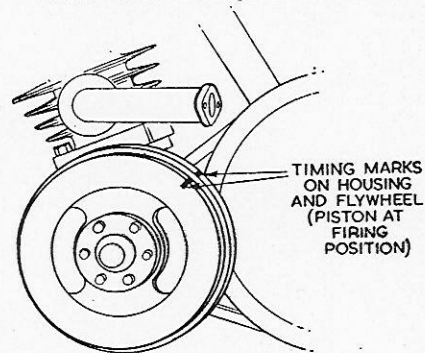

FIG. 1.—Timing marks.
Checking ignition-timing. Check that contact-breaker gap is correct. Turn engine until mark on flywheel coincides with mark on housing (see Fig. 1). The piston is then 5/32 in. before TDC (ignition position). At this position the contact points should be just commencing to break (a .0015 in. feeler-gauge should just slip between the points). If not, adjust the breaking point by slackening the stator-plate securing screws (2) and rotating the plate (anti-clockwise to retard and clockwise to advance). Re-tighten screws and re-check timing.